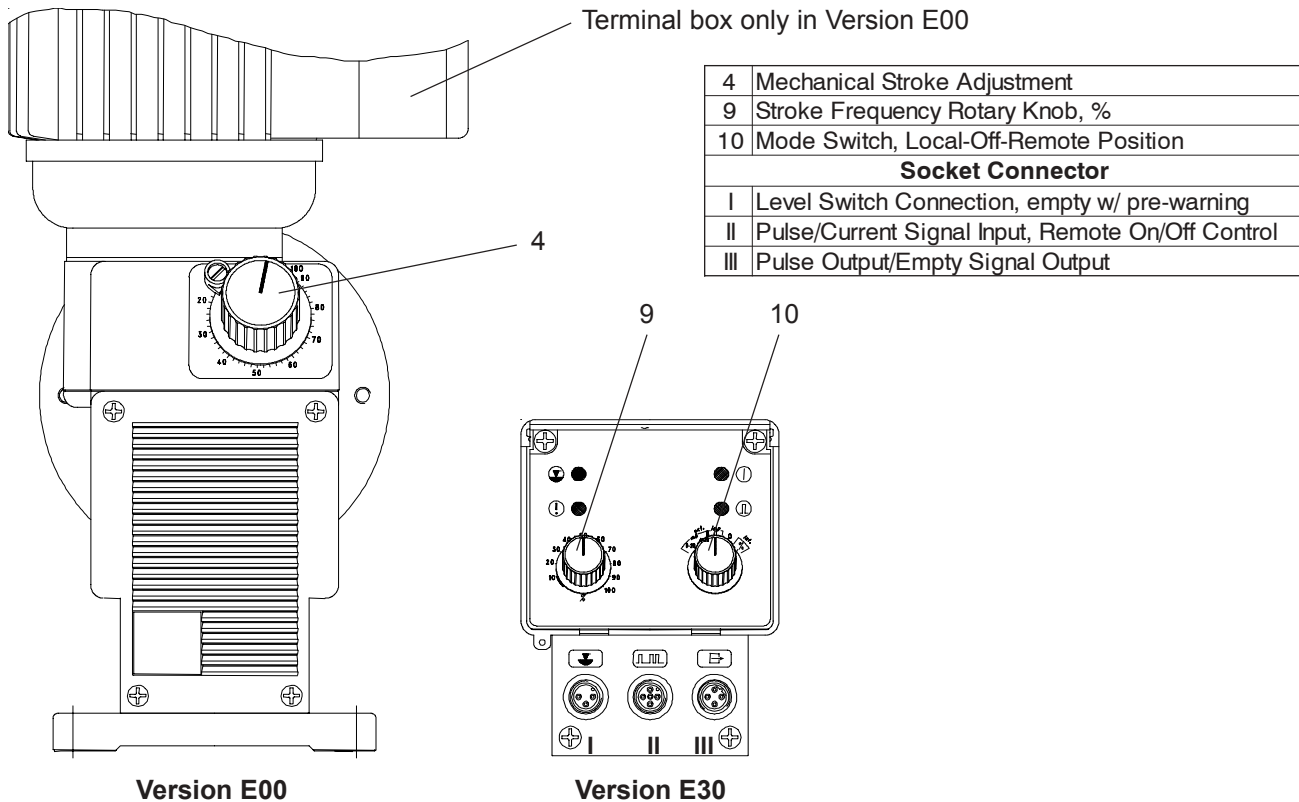

Figure 1.1 - Pumps Front Configuration
1.4 Control Modes - See Figure 1.1